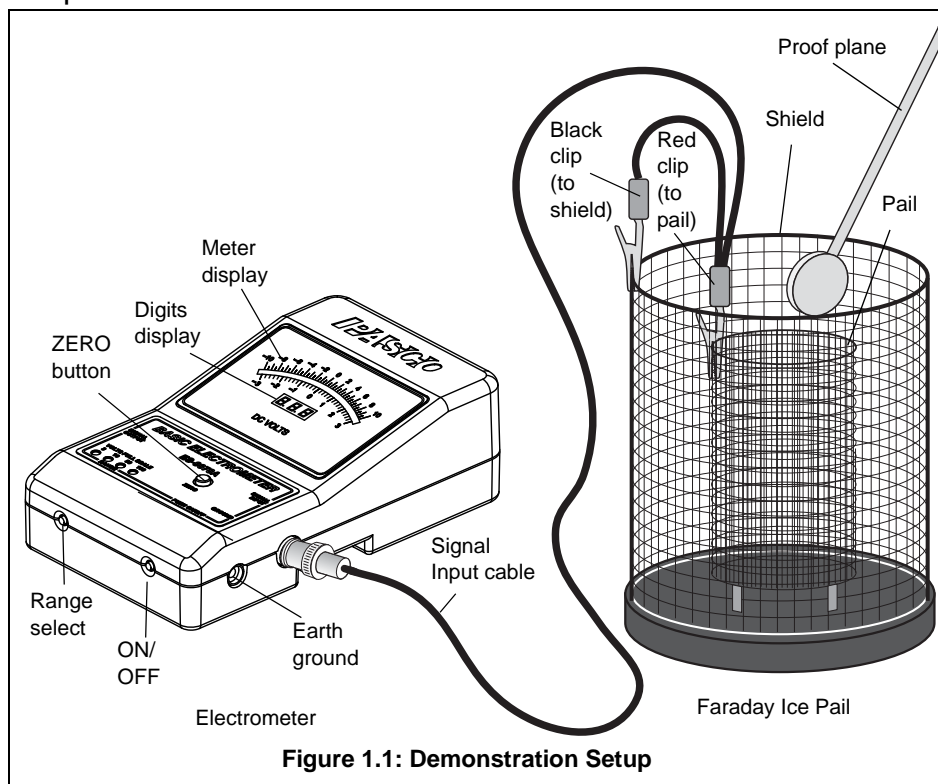

Figure 1.1: Demonstration Setup
1. Connect the electrometer to the Faraday Ice Pail as shown in Figure 1.1. Make sure to ground the electrometer and the ice pail. The electrometer should read zero when grounded, indicating there is no charge in the ice pail. Press the ZERO button to completely remove all charge from the electrometer and the ice pail.